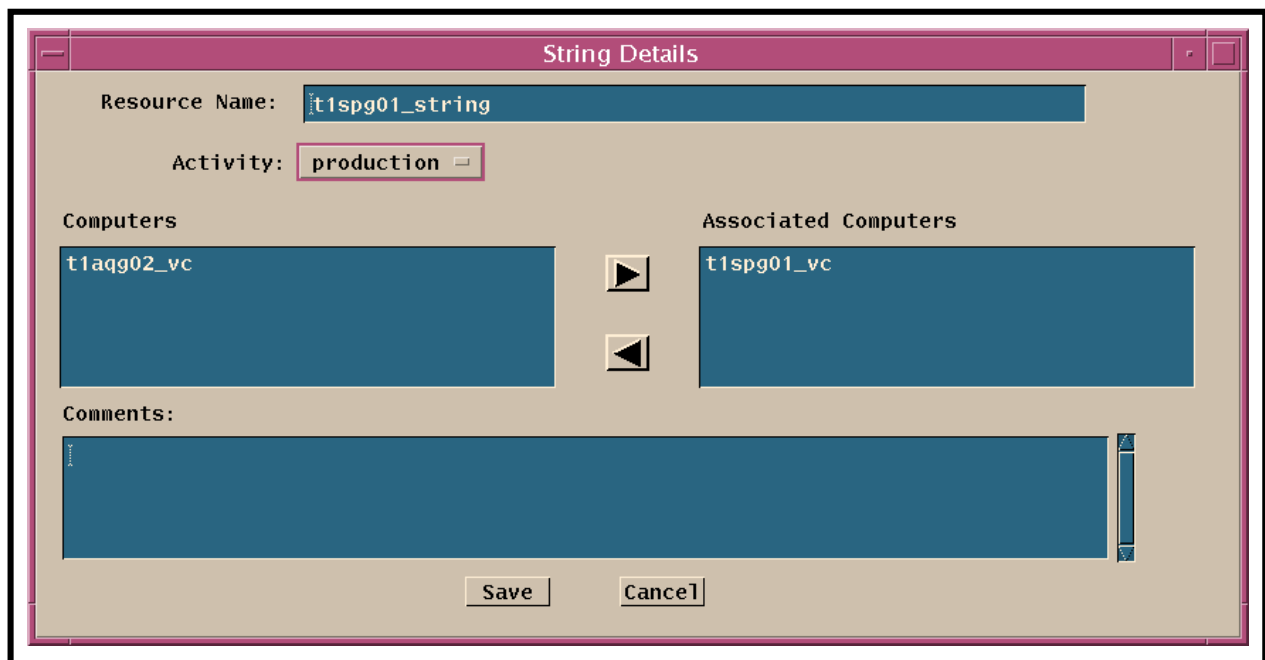

Figure 13. String Details GUI
- The **String Details** GUI displayed when the **New...** button on the **Resource Editor** GUI is clicked is similar to the **String Details** GUI (Figure 13) that is displayed when the **Modify...** button on the **Resource Editor** GUI is clicked.